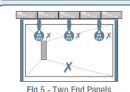

Fig 5 - Two End Panels
- Always fit a front screen unless fitting as part of a wet room - See Fig 5